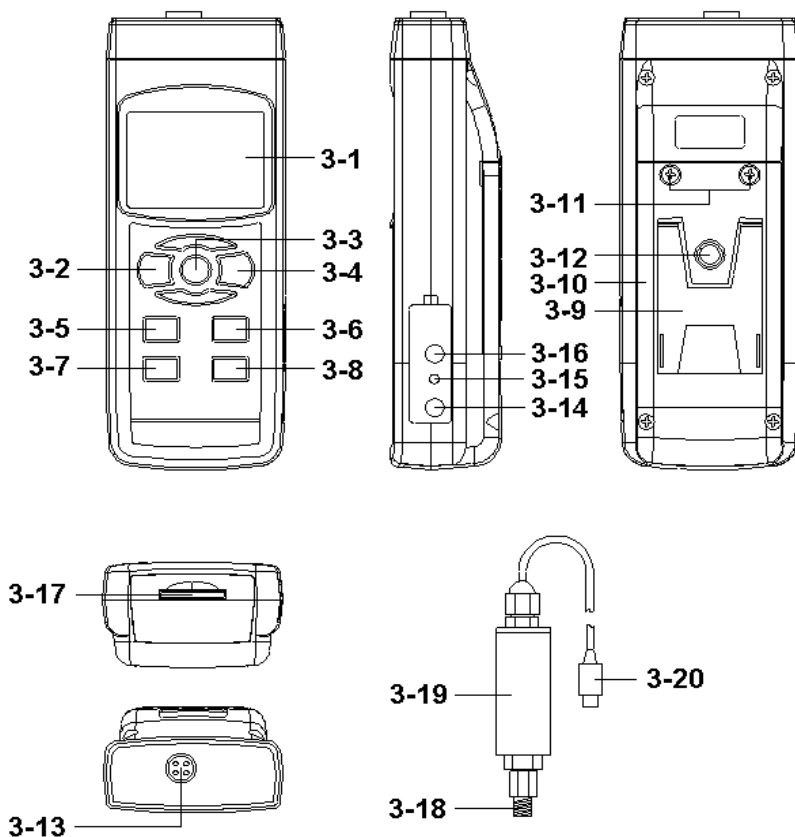

Fig. 1
After already select the convenient pressure sensor type, press Sensor type Button (3-6, Fig. 1) once, the Display will show the sensor type to confirm.
For example, if the pressure type already select 2 bar pressure sensor (Model : PS100-2BAR), then if press Sensor type Button (3-6, Fig. 1) once, the Display will show :
- 1) Plug in the " Plug of Pressure Sensor " (3-20, Fig. 1) to meter's " Probe Input Socket " (3-13, Fig. 1)
- 2) Power on the meter by pushing the " Power Button " (3-2, Fig. 1) once.
- 3) Press the " Sensor Type Button " (3-6, Fig 1) once to check if the meter's sensor type is same as the external pressure sensor.
- 4) Press the " Unit Button " (3-5, Fig. 1) once in sequence to select the measuring unit as : Bar, Psi, Kg/cm², mm Hg, inch Hg, meter H₂O, inch H₂O, Atmosphere, hPA, kPA.
If the Display is not show zero value, push the " Zero Button " (3-7, Fig. 1), > 10 seconds continuously, the Display value will change to zero value.
- 6) Connect the " Port Connector of Pressure Sensor " (3-18, Fig. 1) to the installation that intend to measure the pressure value.
During the measurement, press the " Hold Button " (3-3, Fig. 1) once will hold the measured value & the LCD will display a " HOLD " symbol.
1) The data record function records the maximum and minimum readings. Press the " REC Button " (3-4, Fig. 1) once to start the Data Record function and there will be a " REC " symbol on the display.
- a) Press the " REC Button " (3-4, Fig. 1) once, the " REC MAX " symbol along with the maximum value will appear on the display.
If intend to delete the maximum value, just press the " Hold Button " (3-3, Fig. 1) once, then the display will show the " REC " symbol only & execute the memory function continuously.
- b) Press the " REC Button " (3-4, Fig. 1) again, the " REC MIN " symbol along with the minimum value will appear on the display.
If intend to delete the minimum value, just press the " Hold Button " (3-3, Fig. 1) once, then the display will show the " REC " symbol only & execute the memory function continuously.
After power ON, the " LCD Backlight " will light automatically. During the measurement, press the " Backlight Button " (3-2, Fig. 1) once will turn OFF the " LCD Backlight ".
Prepare a " SD memory card " (1 GB to 16 GB, optional), insert the SD card into the " SD card socket " (3-17, Fig. 1). The front panel of the SD card should face against the down case.
Press the " REC Button (3-4, Fig. 1) once , the LCD will show the text " REC ", then press the " Logger Button " (3-8, Fig. 1), the bottom text " DATALOGGER " will flashing, at the same time the measuring data along the time information will be saved into the memory circuit.
During execute the Datalogger function , if press the " Logger Button " (3-8, Fig. 1) once will pause the Datalogger function (stop to save the measuring data into the memory circuit temporally). In the same time the text of " DATALOGGER " will be no flashing.
If press the " Logger Button " (3-8, Fig. 1) once again will execute the Datalogger again, the bottom text of " DATALOGGER " will flashing .
During pause the Datalogger, press the " REC Button " (3-4, Fig. 1) continuously at least two seconds, the " REC " indication will be disappeared and finish the Datalogger.
Press the " REC Button (3-4, Fig. 1) once , the LCD will show the text " REC ", then press the " Logger Button " (3-8, Fig. 1) once, the bottom text " DATALOGGER " will flashing once and Beeper will sound once, at the same time the measuring data along the time information will be saved into the memory circuit. The lower Display will show the Position (Location) no. and saved into the SD card too.
During execute the Manual Datalogger, press the " ▲ Button " (3-5, Fig. 1) the lower no. (position no.) will flashing. It can use the " ▲ Button " (3-5, Fig. 1) or " ▼ Button " (3-6, Fig. 1) to set the measuring Location no. (1 to 99, for example room 1 to room 99) to identify the measurement location , the lower Display will show P x (x = 1 to 99).